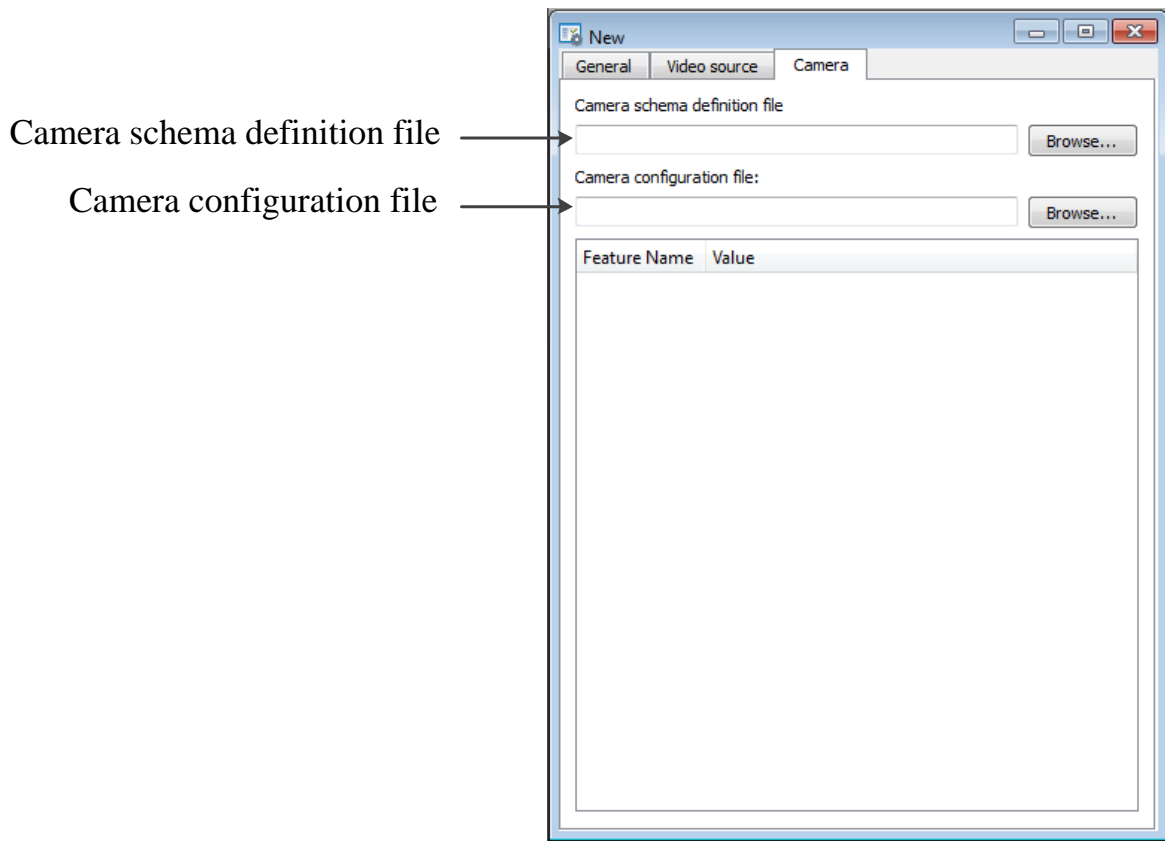

Figure 21: New project camera parameters
4. Switch to “Camera” tab and specify the GenCam XML file and a name for camera configuration file as shown in Figure 21. The later will hold all the camera parameters values.